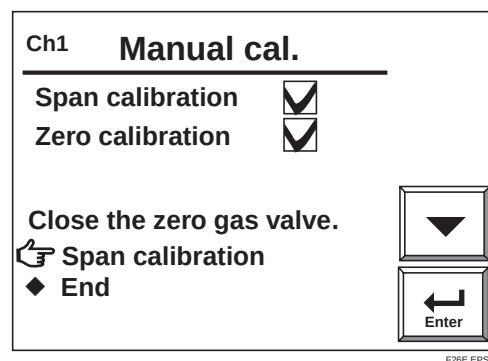

Fig. 7.16 Calibration complete
- 15) When the graph trace stabilizes, touch the [Enter] key. The display changes to like Fig. 7.16. The measured value is adjusted to read the same as the zero gas concentration set value, and a check mark appears in the check box beside Zero calibration. Close the zero gas flow setting valve and tighten the lock nut used to prevent it from loosening during measurement.